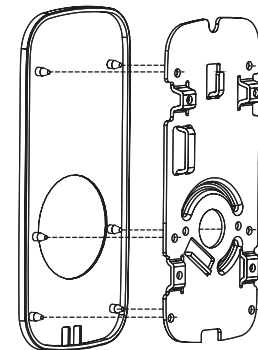

Figure 7
A. Ensure that gasket on interior mounting plate is properly fitted (Fig. 7).